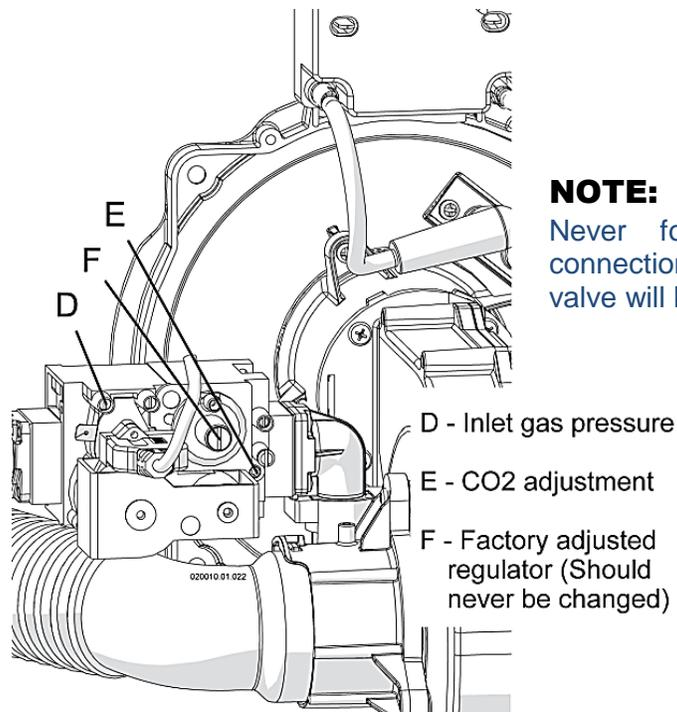

Figure 8-2: Gas Valve
3. Turn the screw in pressure port “D” shown in Figure 8-2 three turns counterclockwise.
4. Connect a manometer with graduations of at least 0.1” W.C. (0.25 mbar) to the inlet gas port “D” shown in Figure 8-2 (on unit model 399 to 1000, choose the pressure port “D” from any gas valve present).
DO NOT adjust the screw "F" (Figure 8-2). This screw is factory-set for the correct gas flow and outlet pressure. Attempting to alter the gas valve setting could result in damage to the valve, causing potential severe personal injury, death, or substantial property damage.
- d) Turn the screw in pressure connection "D" in Figure 8-2, clockwise until snug.
- e) Check pressure port "D" (Figure 8-2) for any gas leaks.
7. Compare the CO₂ reading with the high fire range given in Table 8-1, making sure to use the range for the gas type in use. If the CO₂ reading is outside the specified range, it must be adjusted using the "E" screw in Figure 8-2 of the gas valve *closest* to the burner unit in fire. Use a 2.5 mm Allen Wrench to turn the screw (clockwise to reduce the CO₂ level, counter-clockwise to increase the CO₂ level) in small increments and wait for the CO₂ to stabilize to prevent overshooting the desired value.